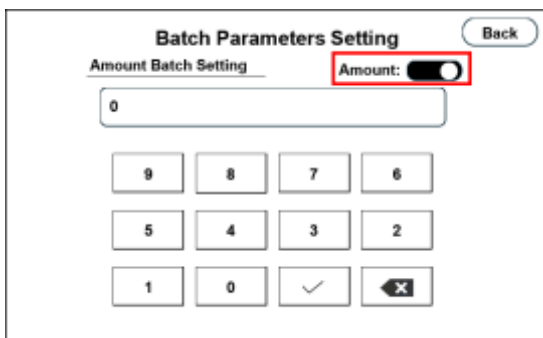
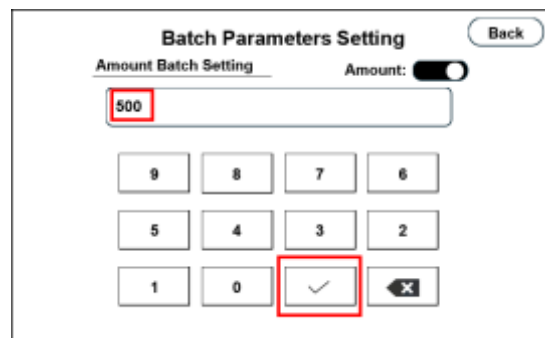

Figure 40
Figure 41
2) Click the button behind “Amount” of the touch screen, it turns from  to , indicating that the batch amount function is turned on, as in Figure 40. The amount can be preset in the range of “1~999999999”, enter the amount through the below numeric keypad. Example: As in Figure. 41, the batch amount is 500.